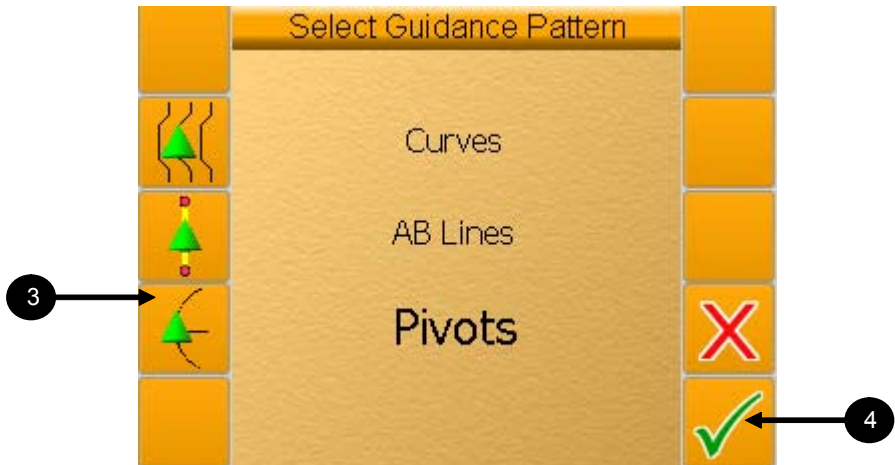

Figure 10-19. Select Pivots Guidance pattern
3. Select  (figure 10-19) to select Pivots Guidance Pattern.
4. Select  (figure 10-19) to confirm the selection.